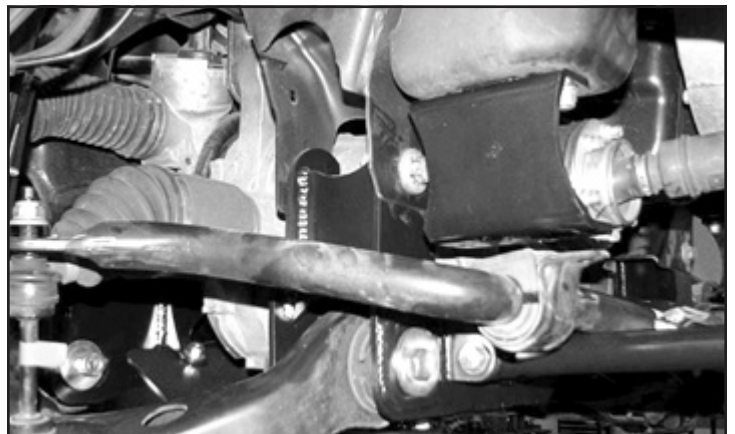

FIGURE 55 - STEP 50
50. Install the factory sway bar using the Fabtech driver and pass brackets (FT30492) (FT30493). Install the factory sway bar link in to the end of the sway bar and lower control arm mounting. Torque Brackets and links to 52 ft.-lbs. **SEE FIGURE 55**